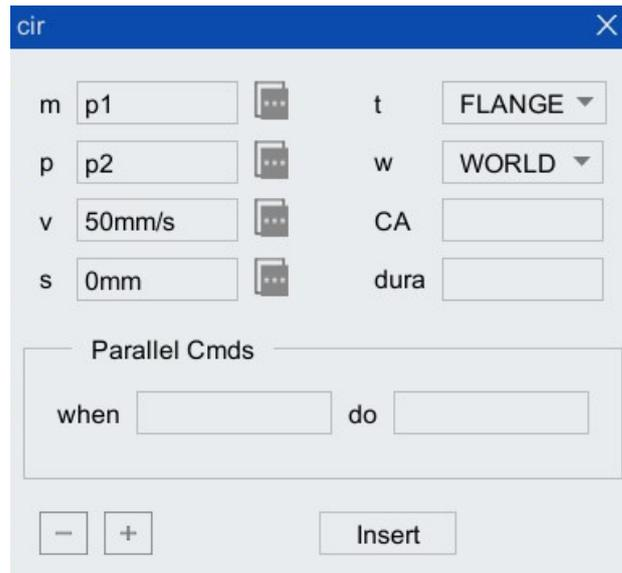

Figure 5-25 "cir" Instruction configuration interface
Step1.Click "Insert Cmd > Motion instruction > cir" option in the toolbar of "Program editor", and the "cir" instruction configuration interface as shown in Figure 5-25 will pop up.
Step6.Click the <Insert> button in Figure 5-25, and the instruction is inserted successfully.